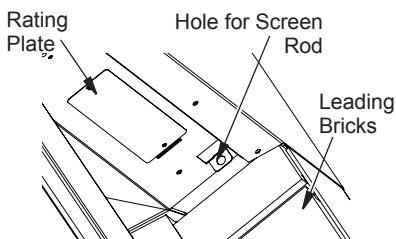

Figure 25 - Installing Fireplace Screen
2. Insert the round end screen rod into hole on the left and right side of smoke shelf (Figure 25).